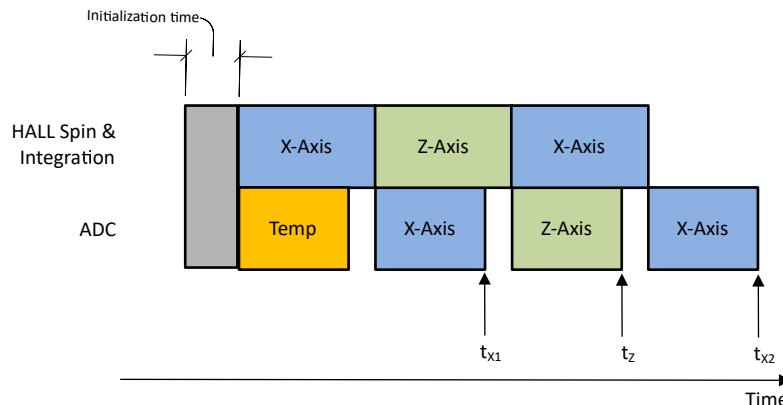

Figure 8-3. XZX Magnetic Field Conversion
In absolute angle measurement, application sensor data from multiple axes are required to calculate an accurate angle. The magnetic field data collected at different times through the same signal chain introduces error in angle calculation. The TMAG5170-Q1 offers pseudo-simultaneous sampling data collection modes to eliminate this error. Figure 8-3 shows an example where MAG_CH_EN is set at 1101b to collect XZX data. Equation 14 shows that the time stamps for the X and Z sensor data are the same.
- t_{X1} , t_Z , t_{X2} are time stamps for X, Z, X sensor data completion as defined in Figure 8-3.